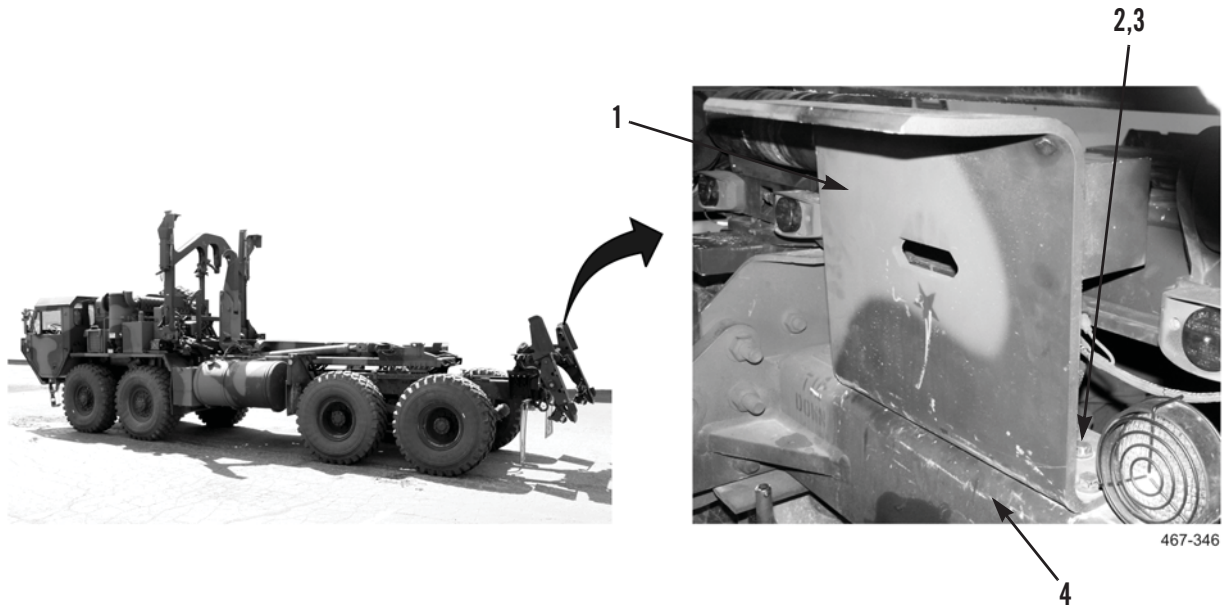

Figure 1. Bumper Stop Removal.
1. With assistance, remove six nuts (Figure 1, Item 2), bolts (Figure 1, Item 3), and bumper stop bracket (Figure 1, Item 1) from frame (Figure 1, Item 4).